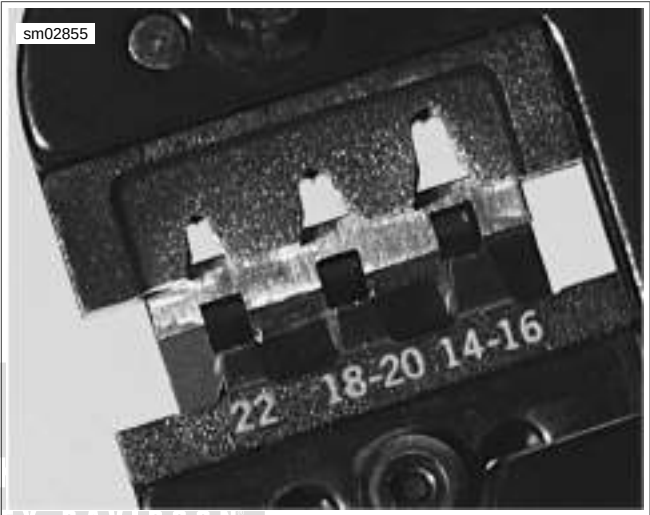

Figure A-32. Square Openings in Socket Locator Bar
- See Figure A-32. With the crimp tails up, place the terminal through the punch/die into the square opening in the socket locator bar.